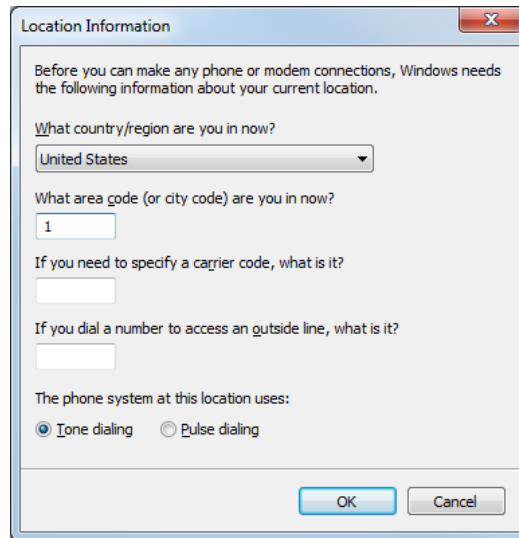
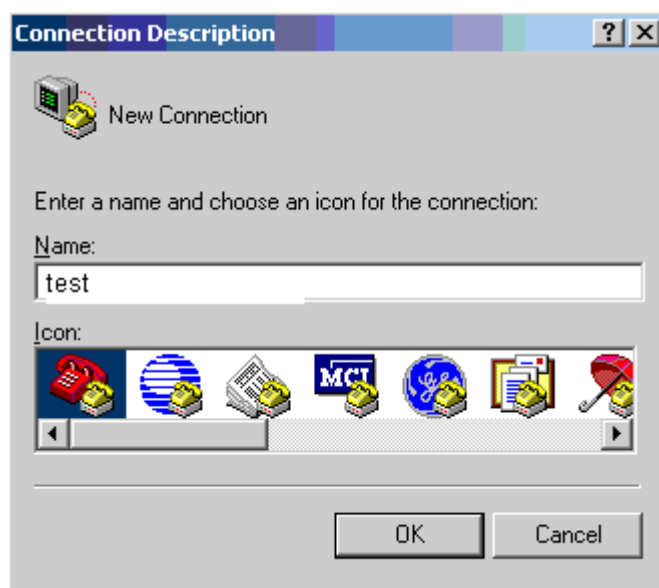

Figure 4-3 "Location information" interface
Figure 4-5 “Connection Description” interface
- Step 1: Enable the PC (or laptop), select **Start > All Programs > Accessories > Communication > HyperTerminal**, and click  to set up the new connection as shown in Figure 4-5. If it is the first time to set the Hyperterminal, the system displays the interface of **Location Information**, as shown in Figure 4-3. Fill in according to the red indication in the figure and click **OK**.